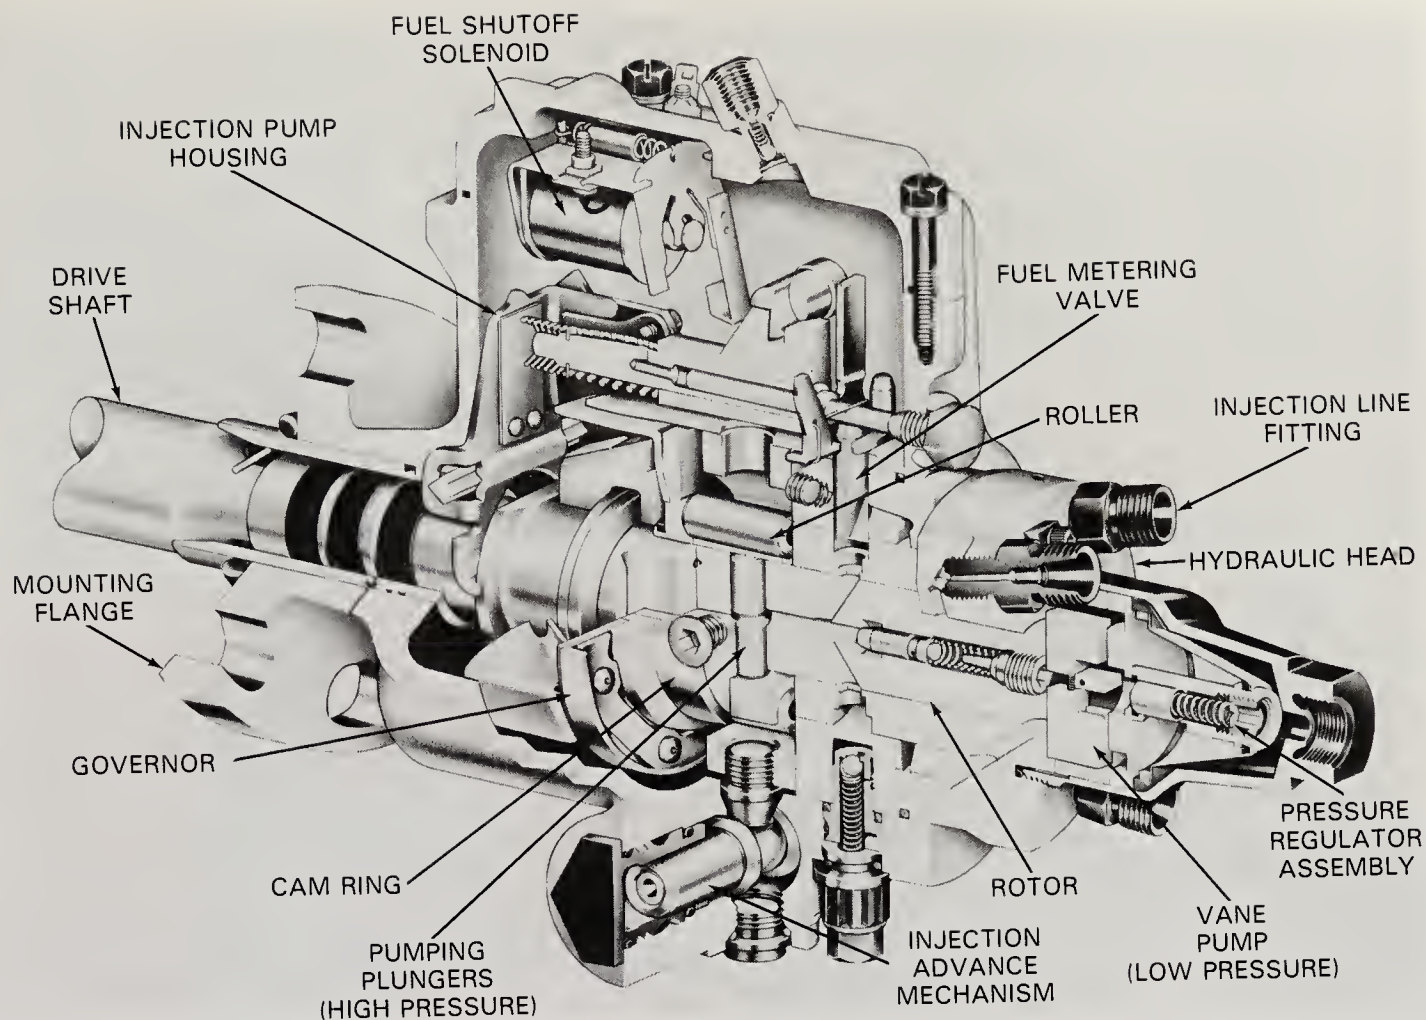

Fig. 23-19. Two-plunger distributor pump. It is similar to single-plunger type pump. Can you find the major differences and similarities? (Oldsmobile)
A two-plunger distributor injection pump is pictured in Fig. 23-19. Besides many of the basic parts already covered, this injection pump consists of:
the hydraulic head to the injector nozzles. Look at Fig. 23-19 to locate the plungers.
1. An **ELECTRIC FUEL SHUT-OFF** is a solenoid that stops fuel injection when ignition key is turned off. See Fig. 23-19.